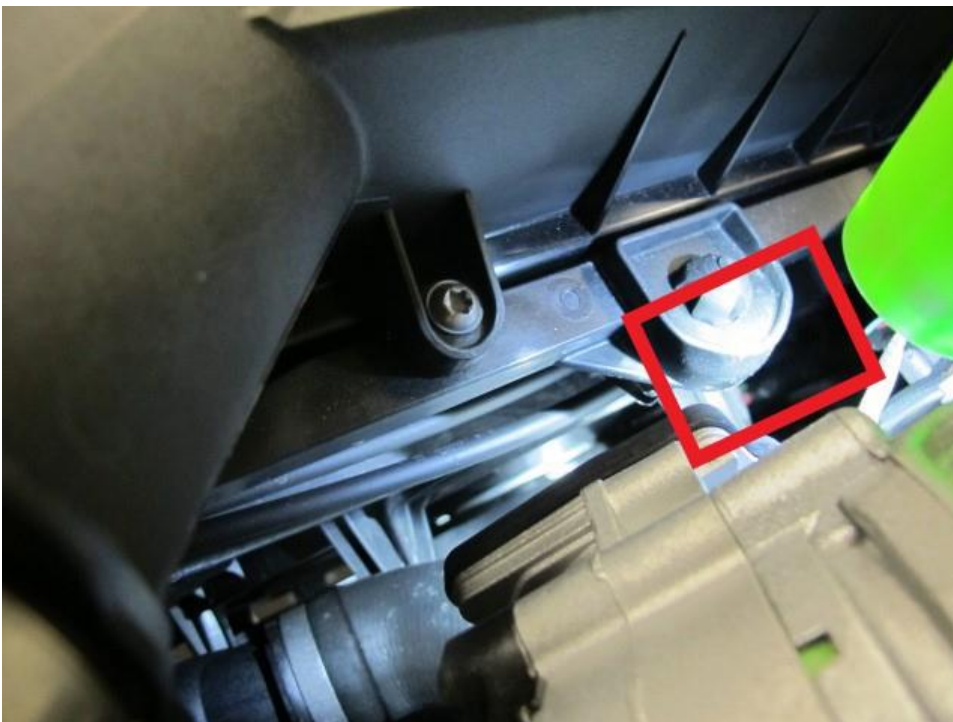

Figure 6
5) Referring to Figure 6 (Rear of radiator cowl) - Visually check the cooling fan is spinning / operating